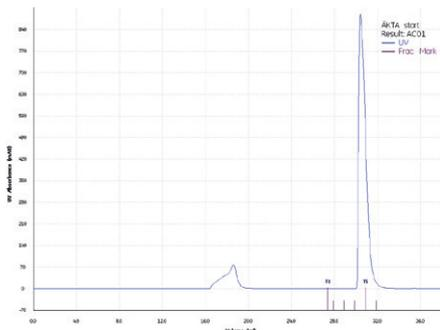

Fig 14. Chromatogram (.bmp image) of affinity purification on ÄKTA start.
29. Insert the USB memory stick into a computer to open the chromatography result file (AC01) in any image viewing software (Microsoft® picture manager/paint etc.). A representative chromatogram for the chromatography run is shown in Figure 14.